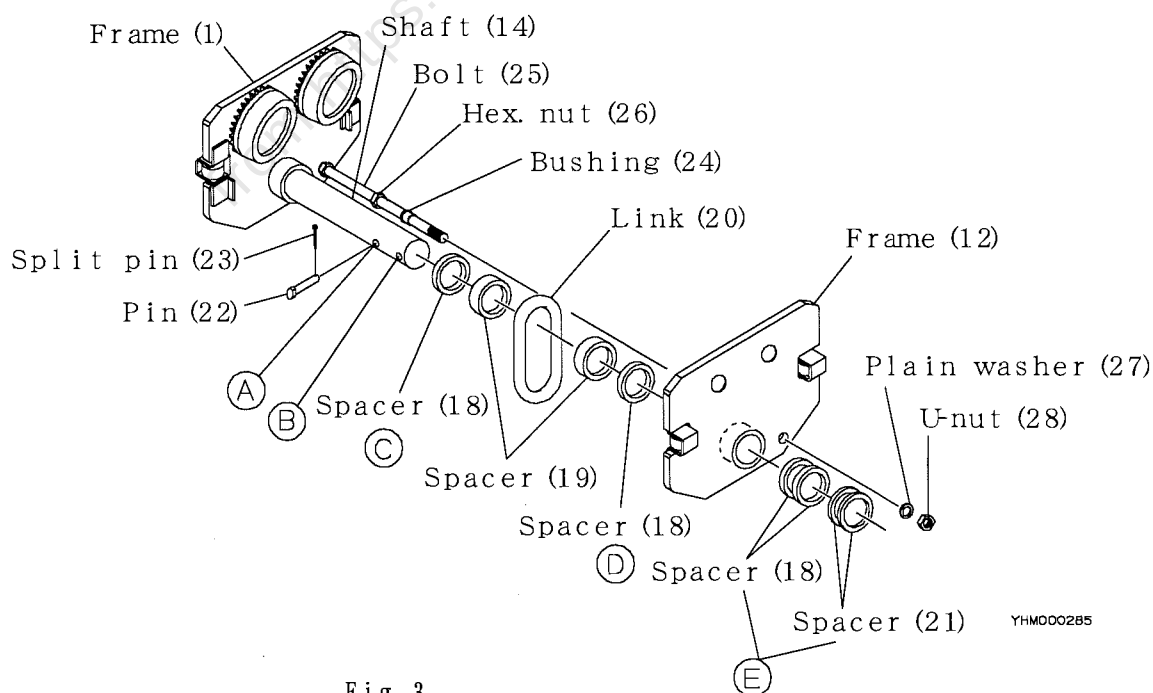

Fig. 3
Referring to Table 2 and Figure 3, adjust the trolley width using the following procedure.
- 1) Remove U-nut(28) and Plain washer(27) from the Frame(12) side of Bolt(25), and move Hex. nut(26) and Bushing(24) to avoid disturbing adjustment work.
- 2) Remove Split pin(23) which is temporarily fixed on Pin(22), and remove Pin(22).
- 3) Remove Frame(12), Spacers(21), Spacers(18), Spacers(19) and Link(20) from Shaft(14).
- 4) Attach Spacers (18) and Spacers (21) to Shaft (14) according to Table 2 and Figure 3, and attach Spacers (19) and Link (20).
- 5) Attach Frame (12) on Shaft (14).
- 6) Insert Pin (22) into the hole ④ of Shaft (14), and fix with Split pin (23).
- (1) Remove the stopper from the rail end and install the trolley.
- (2) Install the stopper at the rail end and fix securely.
■ When installing the trolley on the middle of the rail (See Figures 3 and 5):
- 1) Remove Split pin (23) from Pin (22).
- 2) Remove Pin (22) from the hole ㊶ and inset it into the hole ㊷ of Shaft (14). Attach Split pin (23) to pin (22), and slightly bend Split pin (23) to avoid slipping out.
- 3) Widen the distance between Frame (1) and Frame (12), and put the wheels of Frame (1) on the rail.
- 4) While keeping the wheels of Frame (1) on the rail, push Frame (12) and put the wheels of Frame (12) on the rail.
- 5) Remove Split pin (23) from Pin (22).